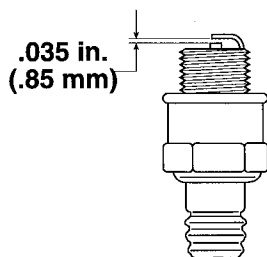

Figure 22
2. Set spark plug gap at .035 inch (.85 mm) (Fig. 22).